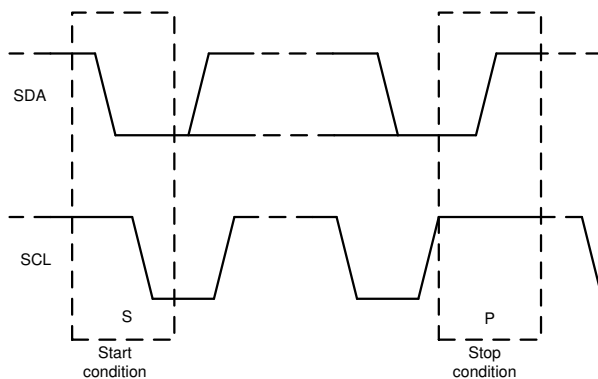

Figure 6-19. Start and Stop Conditions
1. The controller initiates data transfer by generating a start condition. Figure 6-19 shows that the start condition is when a high-to-low transition occurs on the SDA line while SCL is high. All I²C-compatible devices recognize a start condition.
4. Figure 6-19 shows that to signal the end of the data transfer, the controller generates a stop condition by pulling the SDA line from low-to-high while the SCL line is high. This action releases the bus and stops the communication link with the addressed target. All I²C-compatible devices recognize the stop condition. Upon receipt of a stop condition, the bus is released, and all target devices then wait for a start condition followed by a matching address.